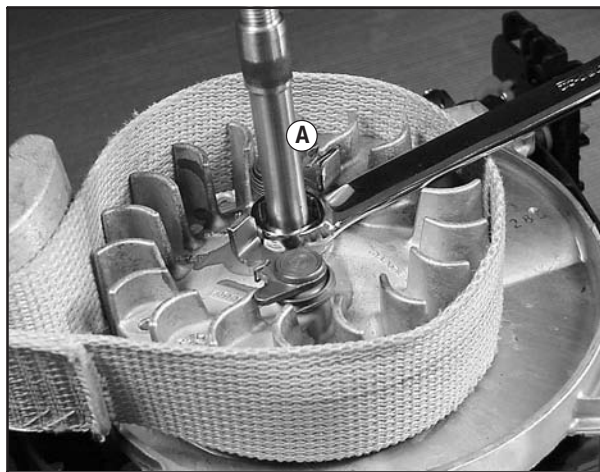

Fig. 9
- Loosen flywheel nut/crank adapter (A) with 9/16" wrench, Fig. 9. Then remove.